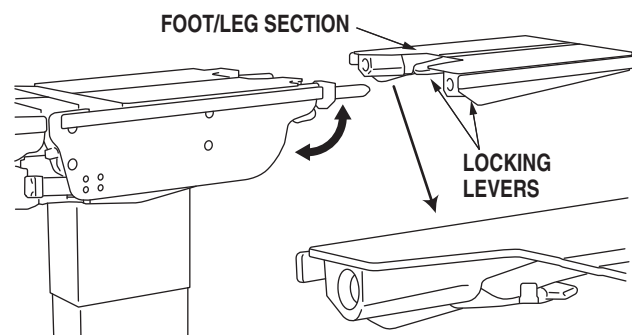

Figure 2-23. Leg Section Removal
a. The Leg Section and the Back Section on the 3602 table are both removable. See figure 2-23 (Leg Section shown).